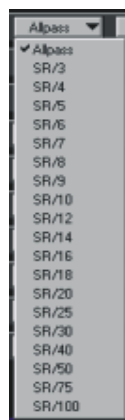

Figure 19 Filter selection dropdown menu.
Highpass and lowpass filters are selected separately. To select a filter, simply click on the highpass (HP) or lowpass (LP) dropdown menu for the input of interest, and select; a dropdown menu is shown in Figure 19. The filters are listed in terms of cutoff frequencies, expressed as a fraction of the sample rate. So, for example, if the actual sample rate (see page 36) is 8000 Hz, and the HP option of SR/10 is selected, the input will be passed through a highpass filter with a cutoff frequency of 800 Hz.
As with the input filtering setup, highpass and lowpass filters are selected separately. To select a filter, click on the highpass (HP) or lowpass (LP) dropdown menu for the output of interest, and select; an example of the dropdown menu is shown in Figure 19. The filters are listed in terms of cutoff frequencies, expressed as a fraction of the sample rate. So, for example, if the actual sample rate (see page 36) is 8000 Hz, and the HP option of SR/10 is selected, the output will be passed through a highpass filter with a cutoff frequency of 800 Hz.